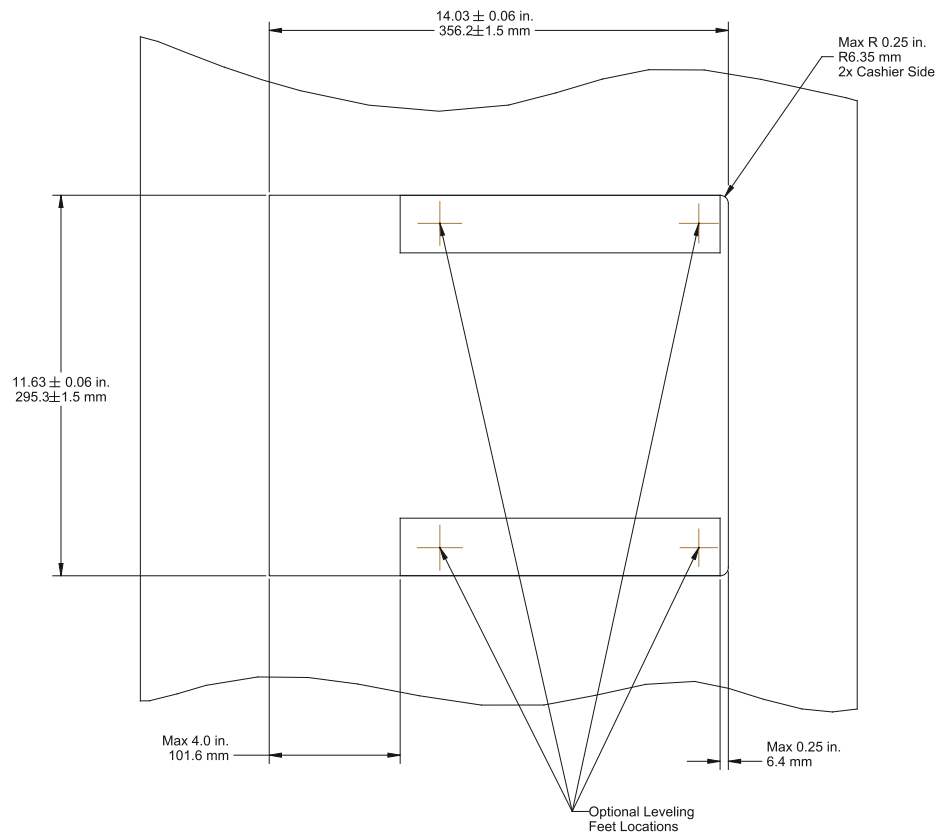
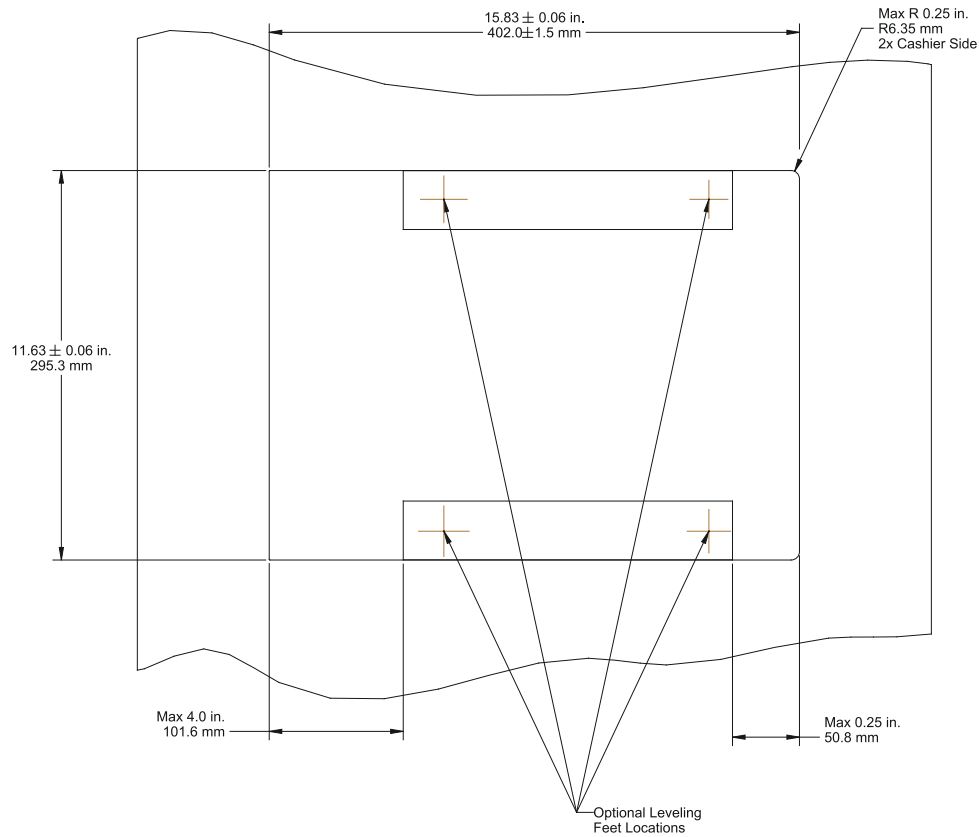
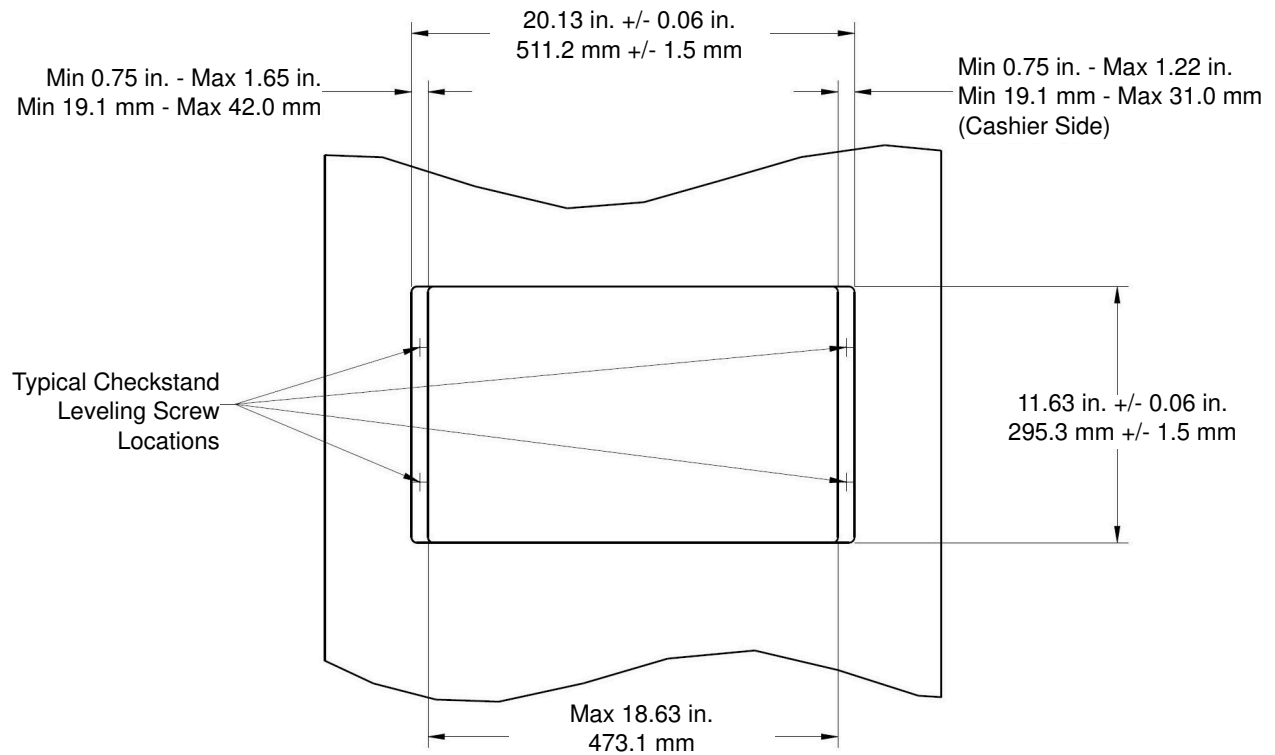

Figure 3-8 Short Unit (No Scale) Counter Cutout
Figure 3-12 Medium Unit Counter Cutout
Figure 3-16 Long Unit Counter Cutout
2. Verify checkstand dimensions shown in Figure 3-8, Figure 3-12, and Figure 3-16, respectively.